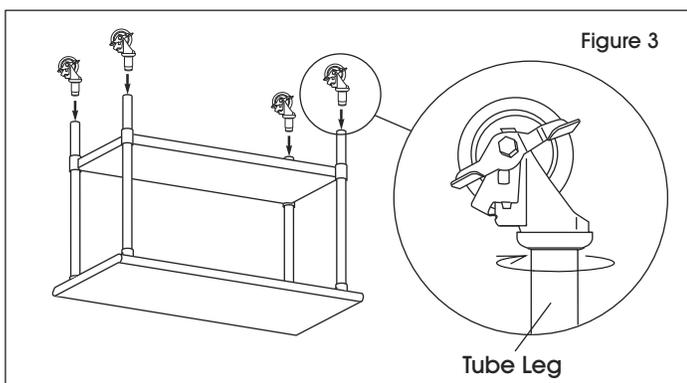

Figure 3
4. With castor fully inserted into the leg, turn clockwise until castor is secured to tube leg. (See Figure 3)